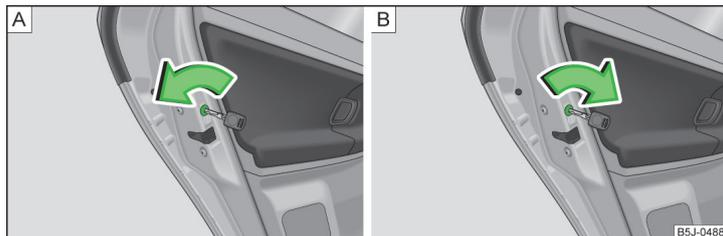

Fig. 27 Switching child safety lock on: for vehicles without or with central locking system
- On vehicles without central locking, turn the slot of the lock in the left-hand door anti-clockwise » Fig. 27 - [A] and clockwise in the right-hand door.
- On vehicles with central locking, turn the slot of the lock in the left-hand door clockwise » Fig. 27 - [B] and anti-clockwise on the right-hand door.